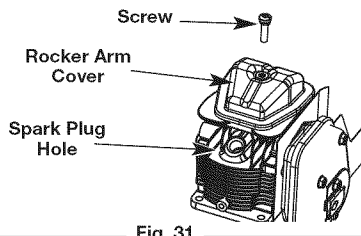

Fig. 31
- The piston is at the top of its travel. This should be done by looking into the spark plug hole. (Fig. 31)